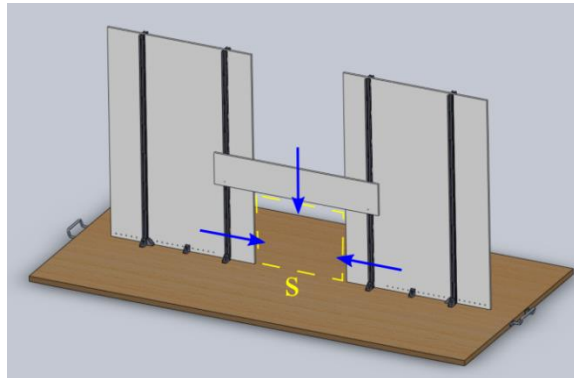

FIGURE 7: WALL TILE. BY MOVING THE PANELS, THE APERTURE WILL BE REDUCED TO MATCH ROBOT DIMENSIONS.
- Task 2: The wall tile is made of three rigid PVC elements which can be moved to reduce the aperture dimensions, see Figure 7. Approximately, the aperture will be a square of side s , where s should be decided by teams as follow.